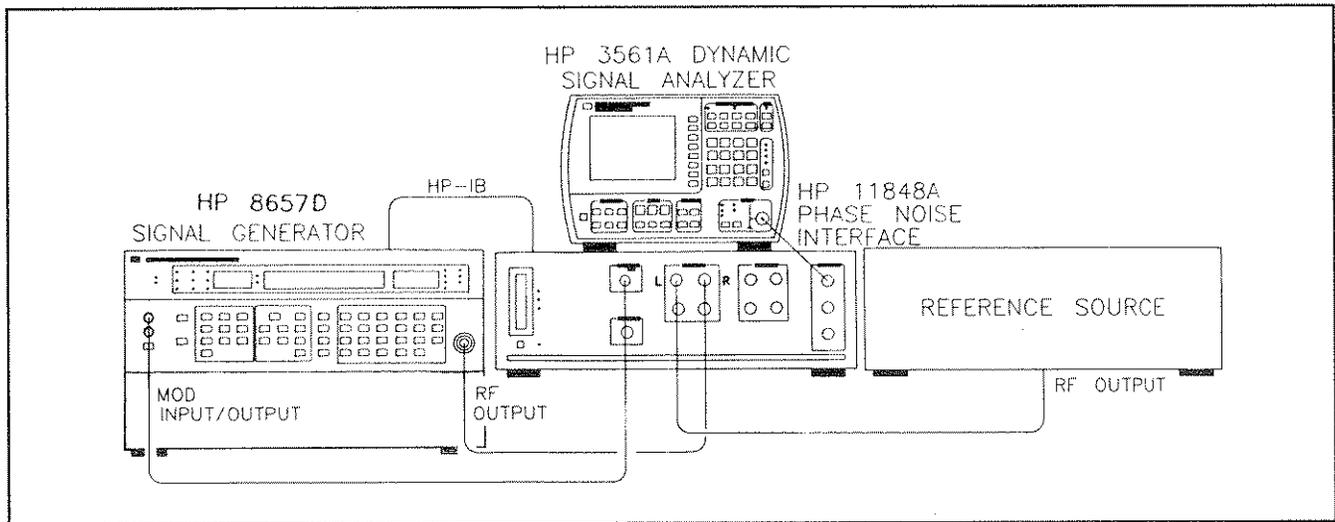

Figure 4-5. Setup Diagram for SSB Phase Noise Measurement
12. When the hardware connect diagram appears in the display, connect the HP 8657D and reference source to the HP 3048A as shown. (Note that the reference source is labeled USERS's DUT on the screen. Figure 4-5 also shows the cable connections for this measurement.)